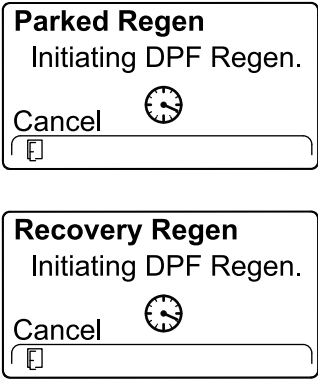

Figure 60
5. The InfoCenter displays the INITIATING DPF REGEN message (Figure 60).